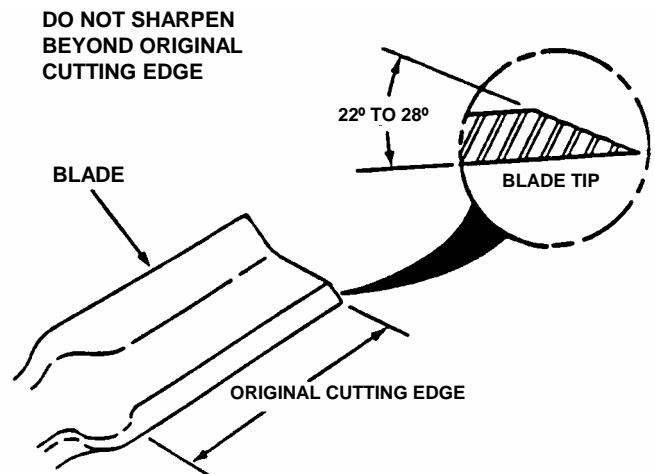

FIGURE 4.7
3. If blade is in good condition, sharpen at 22 to 28 degrees. DO NOT sharpen beyond existing cutting edge. See Figure 4.7.